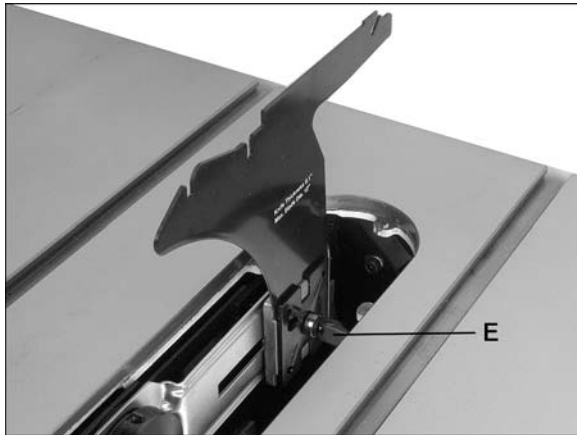

Figure 9
1. Loosen handle (E, Figure 9).